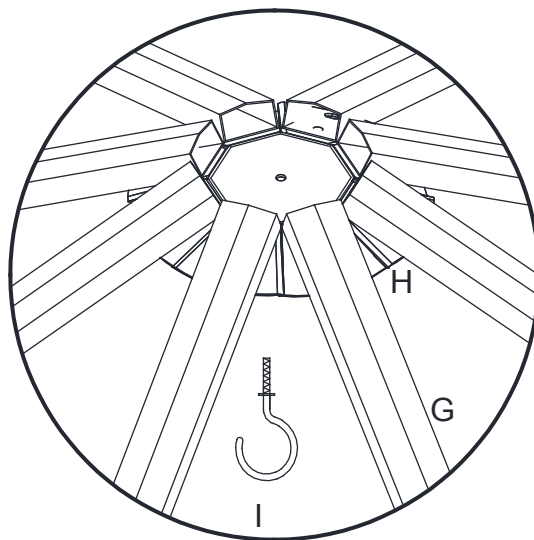

Fig.13
7.2 Screw the Hook (I) into the Central Connector (H) and tighten it, see Fig.13.